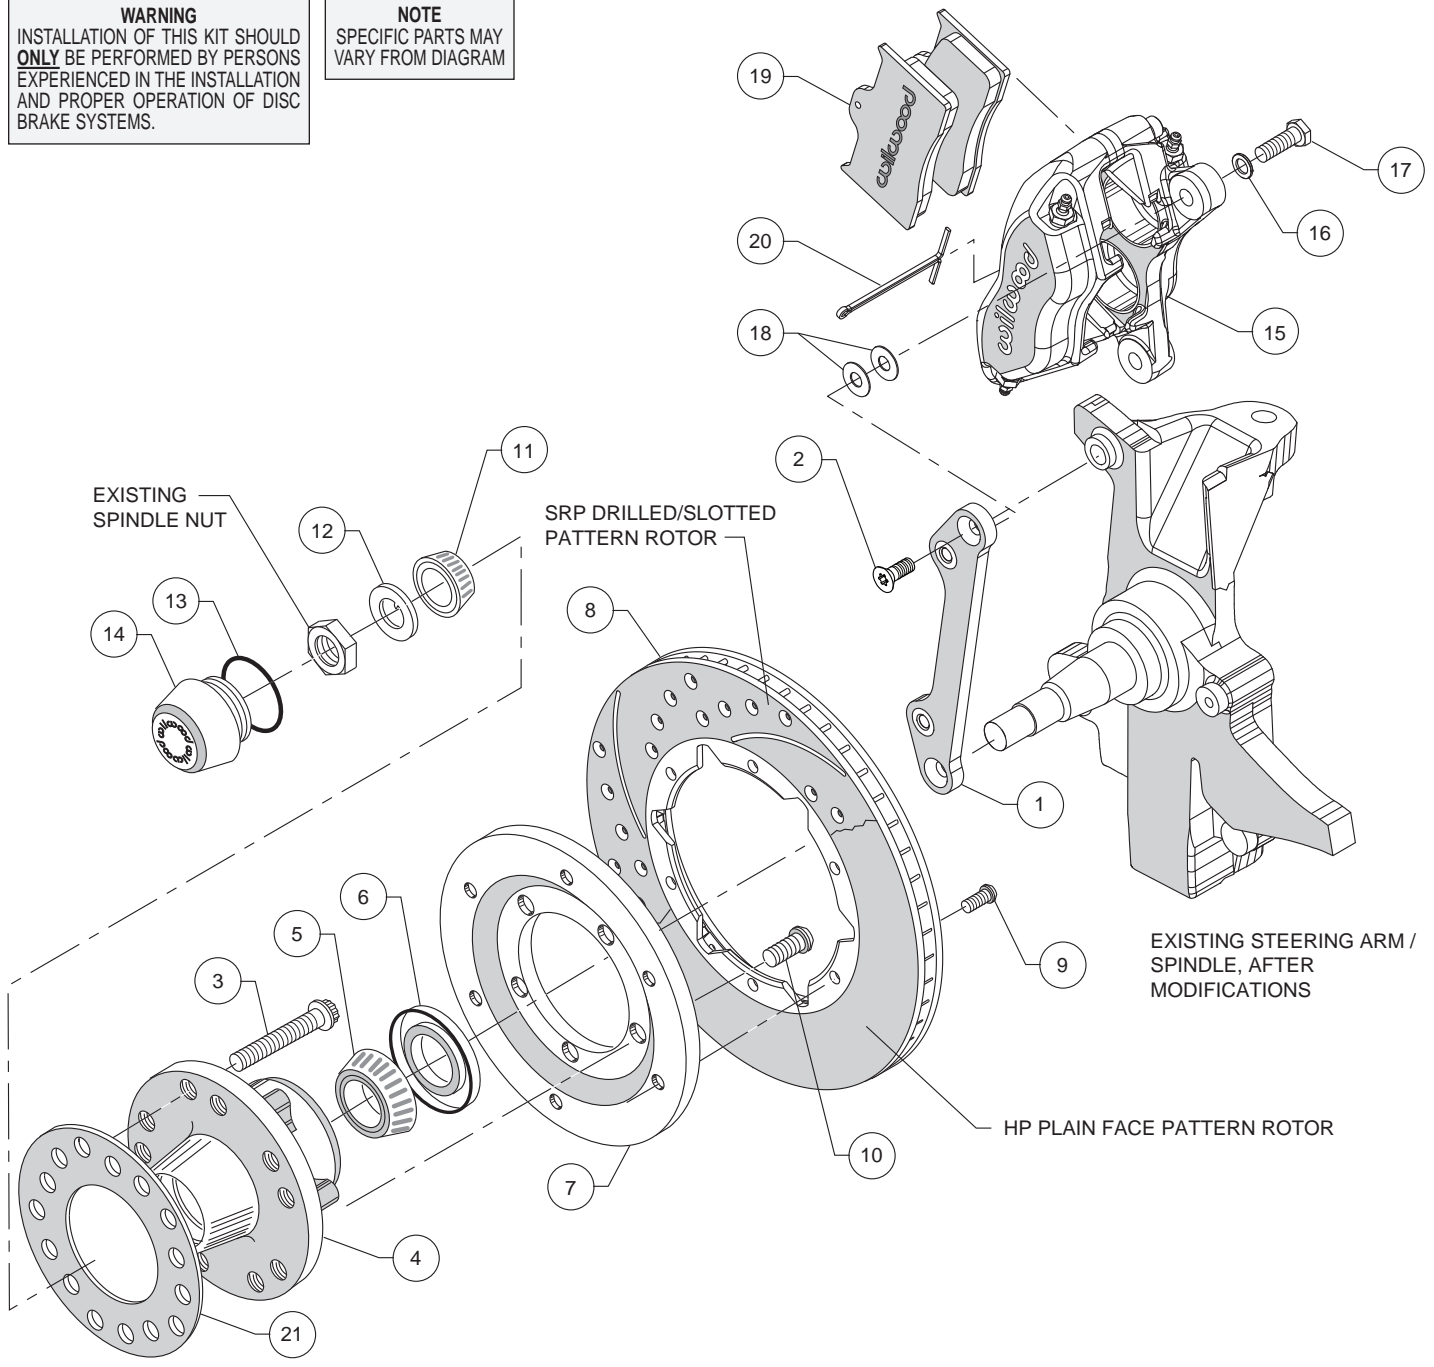
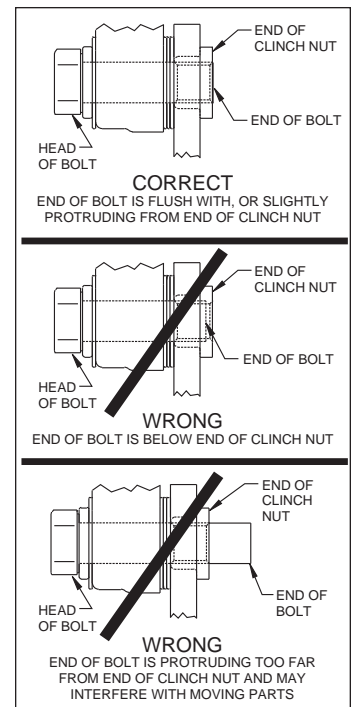

Figure 2. Typical Installation Configuration
Figure 4. Clinch Nut Engagement Diagram
Assembly Instructions (numbers in parenthesis refer to the parts list above, and Figure 2): **CAUTION:** All mounting bolts must fully engage clinch nuts. Be sure to check that all bolts are either flush or protruding through flanged side of clinch nut after shimming, Figure 4.
- Align caliper mounting bracket (1) with the corresponding holes, to the face of the spindle. Attach using bolts (2) as shown in Figure 2 and Photo 1. Temporarily tighten the mounting bolts. Ensure that the flanged heads of the clinch nuts in the bracket are facing outboard, Photo 1. **NOTE:** The bracket must fit squarely against the mounting points on the spindle. Inspect for interference from casting irregularities, machining ridges, burrs, etc. Remove bolts one at a time, apply red *Loctite*® 271 to threads and torque to 40 ft-lbs.
- Install wheel studs (3) into the hub (4), Photo 2. Torque to 77 ft-lb. **NOTE:** There are two five lug patterns in the hub (5 x 4.50 and 5 x 4.75). Ensure the correct hub stud pattern is being used to fit the wheel application.
- Pack the large inner bearing cone (5) with high temperature disc brake bearing grease (available from your local auto parts store) -gure 2 and Photo 4. Attach the rotor to the adapter using bolts (9). Using an alternating sequence, apply red *Loctite*® 271 to the threads, and torque to 25 ft-lb.
- Mount the adapter/rotor assembly (7/8) to the hub (4) using bolts (10), as shown in Figure 2 and Photo 5. Using an alternating sequence, apply red *Loctite*® 271 to the threads, and torque to 45 ft-lb.
- NOTE:** Please reference the caution statement at the beginning of the assembly instructions. Mount the caliper (15) onto the caliper mounting bracket (1) using bolts (17) and washers (16), as shown in Figure 2. Initially place two .035" thick shims (18) on each bolt between the caliper and the bracket, Photo 8. Temporarily tighten the mounting bolts and view the rotor (8) through the top opening of the caliper. The rotor should be centered in the caliper, Photo 9. If not, adjust by adding or subtracting shims between the bracket and the caliper. Always use the same amount of shims on each of the two mounting bolts. **NOTE:** The end of each bolt must be flush with or slightly protruding from the head of the clinch nut, as shown in Figure 4. If necessary place spare shims between washer (16) and caliper mounting ear to achieve the proper clinch nut engagement. Once the caliper alignment and clinch nut engagement are correct, remove the bolts one at a time, apply red *Loctite*® 271 to bolt threads, and torque to 40 ft-lb.